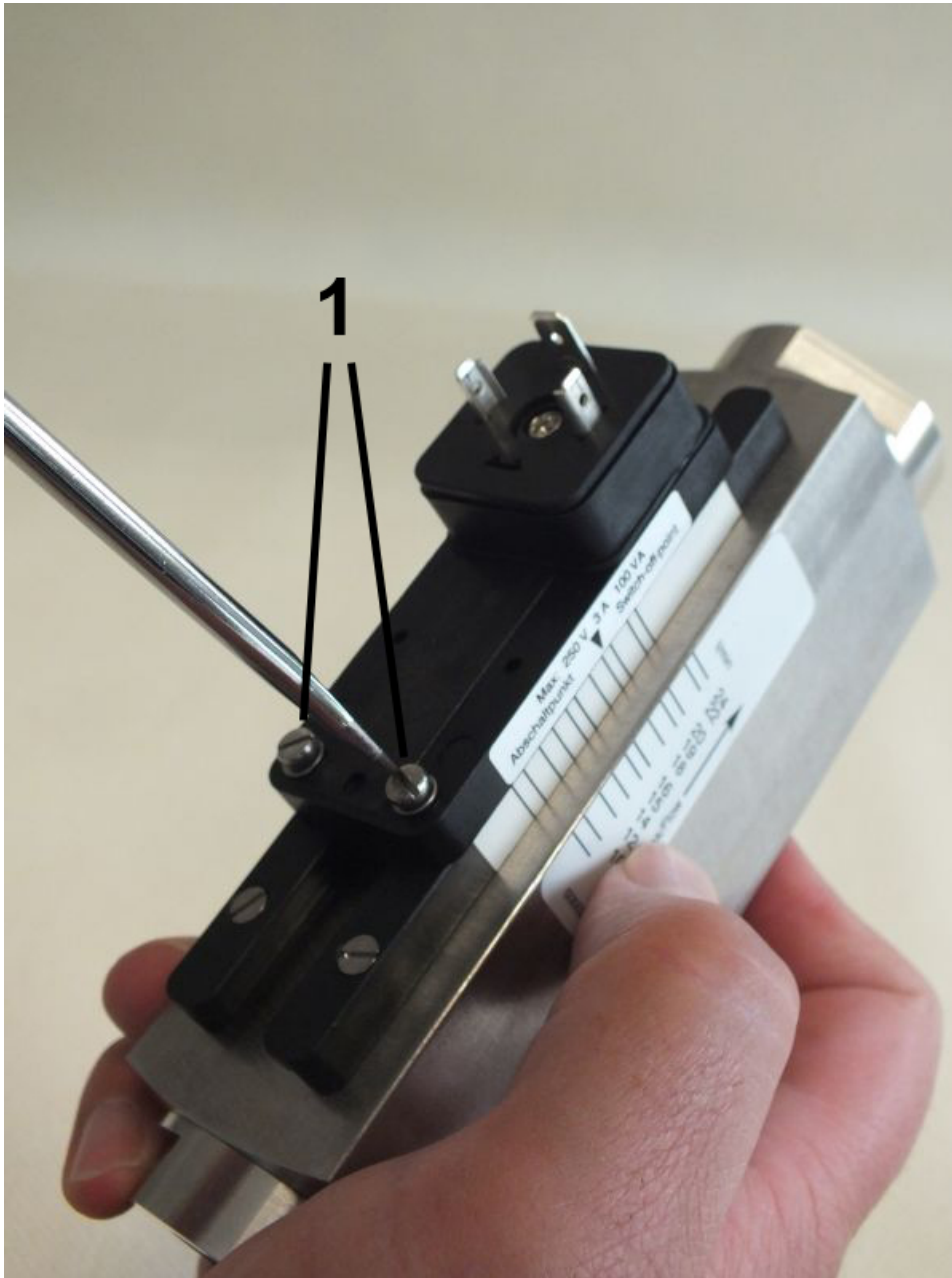

Fig. 39: Loosen the set screws
1. Loosen the set screws of the switch contact (Fig. 39/1) using a flat-bladed screwdriver.
3. Tighten the set screws of the switch contact (Fig. 39/1) using a flat-bladed screwdriver. When doing so, observe the correct tightening torque of the screws.